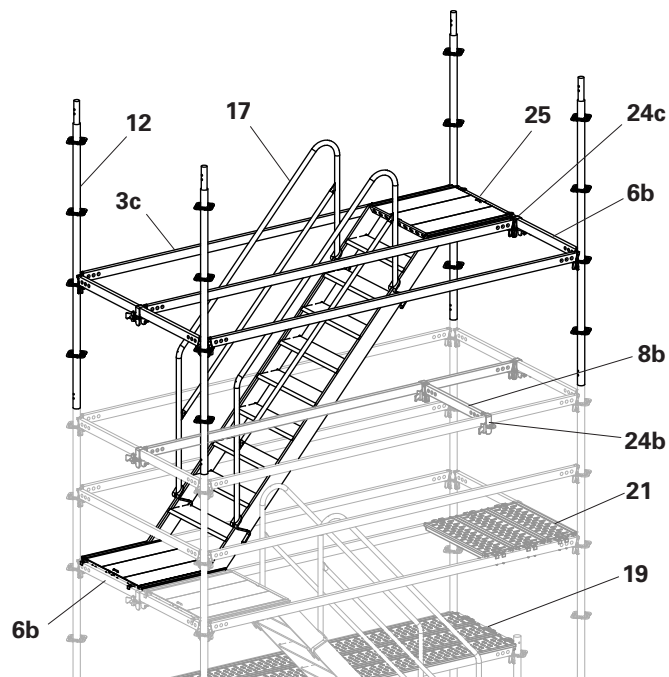

Fig. B10.04
6. Relocate temporary Steel Deck UDG-2 25 x 75 (21) to the position shown.
7. Remove Staircase UAS-2 (25) and Stair Guardrail UAG (17).
9. Finally, remove Standard UVR-2 200 (12). (Fig. B10.04)